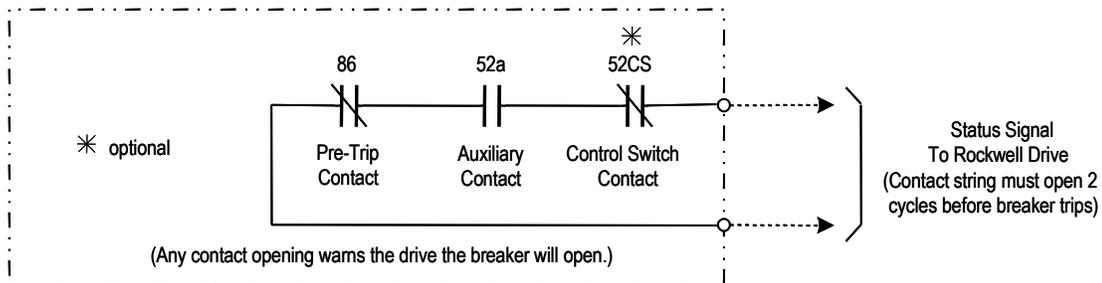
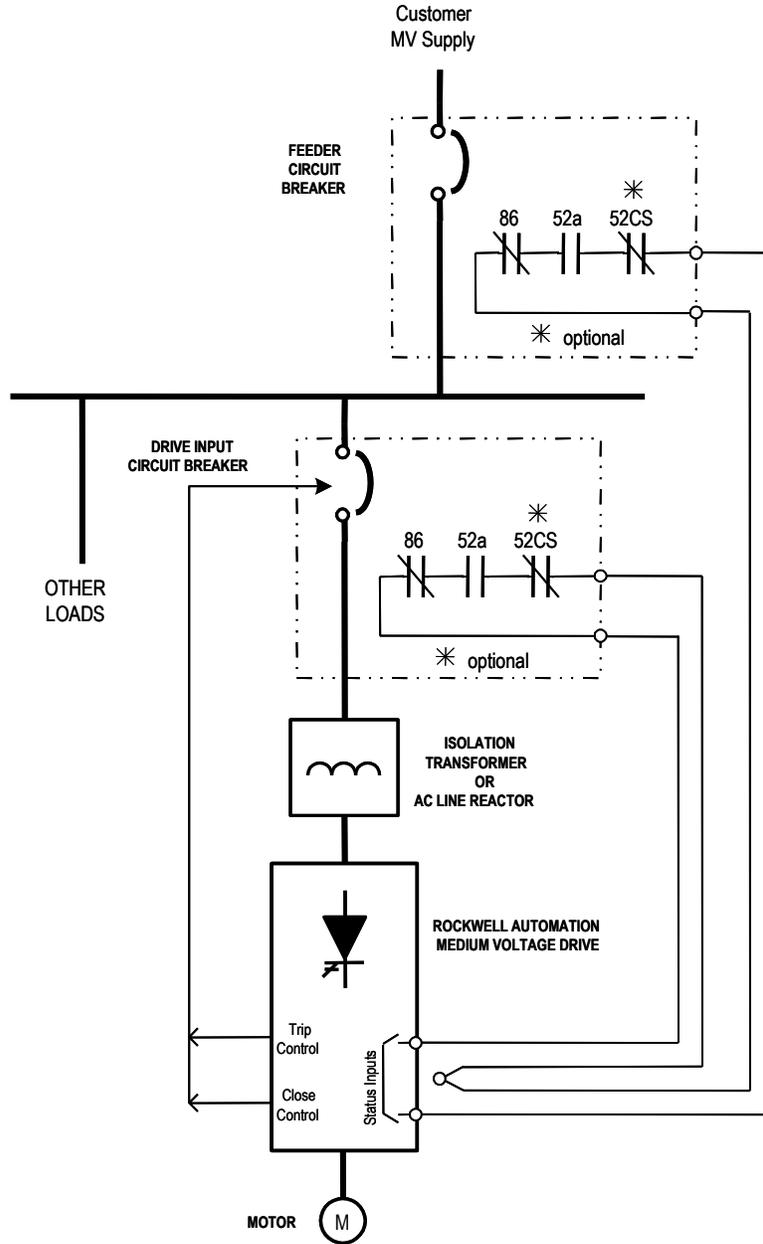

Figure 4 – Typical Breaker Status Contacts Required by the Rockwell Automation Drive
Figure 9 – Providing Feeder Circuit Breaker Status Feedback to the Rockwell Medium Voltage Drive
The drive must monitor the condition of the circuit breaker and know in advance when the breaker is about to open. This will give the drive time to electronically reduce the current through the power semiconductors and the DC Link Reactor before the power poles in the breaker interrupt the current. This will provide a safe and orderly shutdown of the system. To accomplish this shutdown sequence, the drive **must** receive a status line from the breaker that opens a minimum of 2 cycles before the main power poles of the circuit breaker start to open. Figure 4 shows the recommended arrangement to use. The status line consists of three contacts in series. They are composed of an 86 lockout relay contact, a power pole auxiliary contact, and an optional control switch contact.
- b) **52 Contact:** Shown in series with the 86 lockout relay contact is a power pole auxiliary contact – designated as a '52' contact. The 52 contact shown in Figure 4 is typically from a switch that is physically mounted on the breaker frame and mechanically tied to the main primary interrupting contacts (i.e. the power poles) on the breaker.
The contacts are often referred to as a/b contacts. The 'a' contacts follow the breaker main contacts, i.e. when the breaker is open the 'a' contacts are open; when the breaker is closed so are the 'a' contacts. The 'b' contacts are the opposite. In this terminology the 52 contact shown in Figure 4 is an 'a' contact and is shown as '52a'. It must open prior to or at the same time as the power pole opening – not after the power pole opens.
This contact has various names in the industry. Sometimes it is referred to as a Stationary Contact (STA), a 52STA stationary contact, an a/b contact and as a Mechanism Operated Contact (MOC). When selecting the contact to use, its description of operation must match the description above. The contact provides a warning to the drive when the breaker power poles open by any means not shown in Figure 4 (e.g. manual trip or internal device failure). Rockwell Automation refers to this contact on their drive schematics as an 'auxiliary contact' because it is a control rated contact that operates with the power pole contact.
- c) **52CS Control Switch Contact:** When a control switch is used, it is recommended that a contact from this switch be added in the status feedback line as shown in Figure 4. The contact should open when the control switch is moved to the Trip position. This contact will give the drive an advance notice that the circuit breaker is about to open.
The contacts shown in Figure 4 must have not have any power on them from the circuit breaker. They are often referred to as 'dry' or 'clean' contacts. They will be wired back to a voltage source in the drive (typically 110VAC or 120VAC). Current draw will be signal level only. Refer to section 7.0 for variations on deriving the status contacts from the circuit breaker.
If a 2 cycle advance notice from the feeder breaker is used, it can be done by connecting a contact string from the feeder breaker that consists of the contacts shown in Figure 4 to the drive. These contacts will connect in series with the advance notice contacts from the drive input unit as shown in Figure 9.